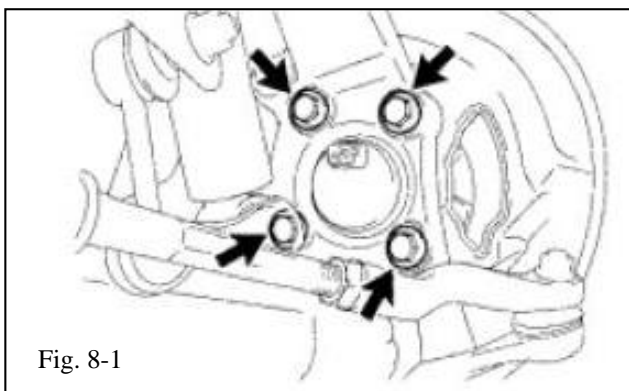

Fig. 8-1
- (a) Remove the 4 bolts, front axle hub sub-assembly and dust cover (Fig.8-1). Discard the dust cover.